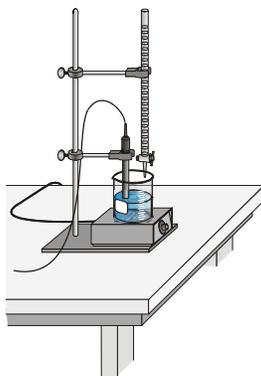

Figure 1
4. Use a utility clamp to suspend the pH Sensor on a ring stand as shown in Figure 1. Position the pH Sensor in the beverage solution and adjust its position so that it is not struck by the stirring bar.
5. Obtain a 50-mL buret and rinse the buret with a few mL of the 0.050 M NaOH solution. Dispose of the rinse solution as directed by your teacher. Use a utility clamp to attach the buret to the ring stand as shown in Figure 1. Fill the buret a little above the 0.00-mL level of the buret with 0.050 M NaOH solution. Drain a small amount of NaOH solution so it fills the buret tip *and* leaves the NaOH at the 0.00-mL level of the buret. Record the precise concentration of the NaOH solution in your data table.